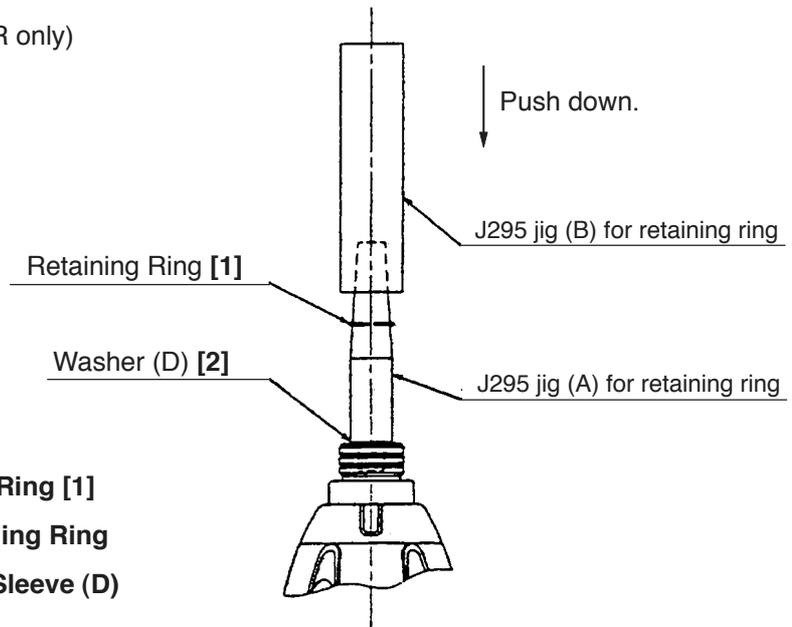

Fig. 19
(6) Mounting Guide Sleeve (D) [4] (WH 12DMR only)
Insert the two Steel Balls D3.5 [9] into the hole of Anvil (F) [10]. Mount Guide Sleeve (D) [4], Guide Spring (B) [3] and Washer (D) [2] in sequence. Mount the Retaining Ring [1] into the groove of anvil using the J295 jigs (A) and (B) for retaining ring as illustrated in Fig. 19.